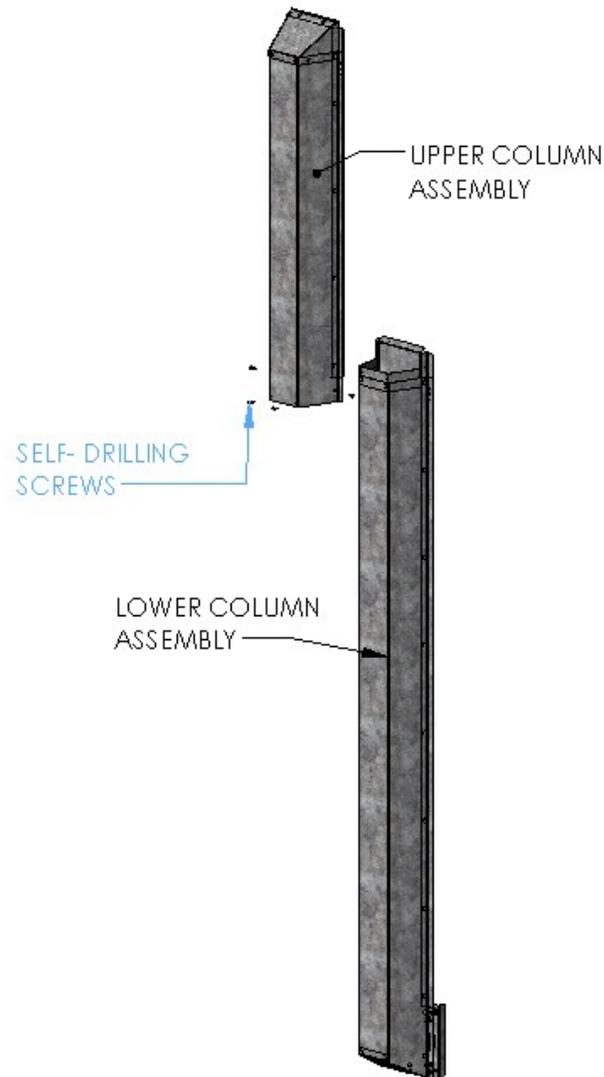

Figure 3.3.1: Flat Bottom Bin Column Assembly
1. See Figure 3.3.1 below. Join the pre-assembled upper column assembly to the lower column assembly using 4=SELF-DRILLING SCREWS (per joint).